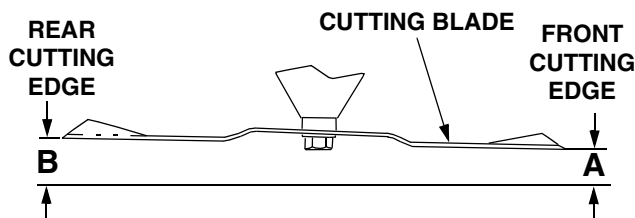

Figure 32
- Refer to Figure 32. Measure and record the distance from the front cutting edge to the ground (measurement A), and from the rear cutting edge to the ground (measurement B), for each of the blades. The front edge of each blade (measurement A) should be lower than its back edge (measurement B) by 1/8 to 1/4 inch.